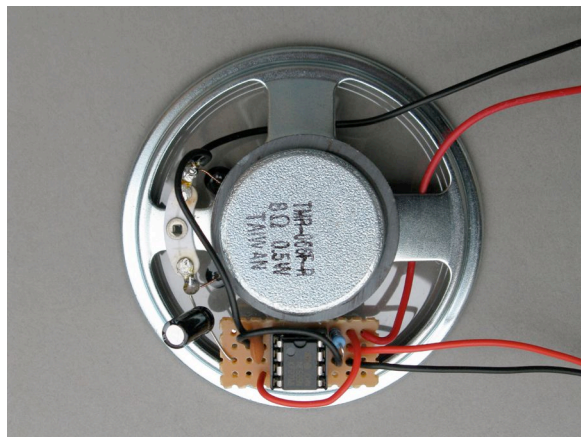
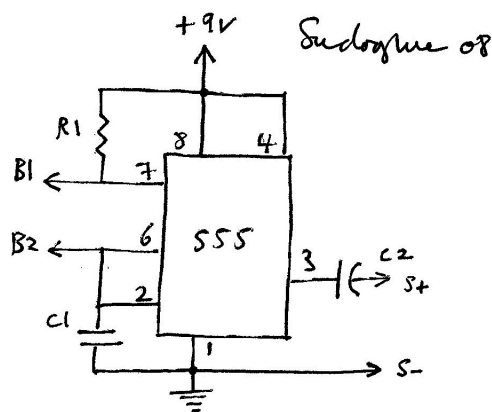

Fig. 1. Sudo-mini. Completed circuit mounted to loudspeaker chassis.
Fig. 5. Sudo-mini schematic (as Sudoglue)
The copper strips run horizontally. The red crosses show breaks in the strips. Capacitor C2 (Fig. 5) is mounted off-board: its leg connecting directly to the positive loudspeaker terminal (see Fig. 1).
The solder tag is optional and may be replaced by a M6 washer. In this case, wire B1 (Fig. 5) may be wrapped around the bolt and secured between the washer and the nut.
board. This takes the strain of the connections (Fig. 1). The negative battery cable (G) can alternatively be connected to the negative speaker terminal instead of directly to the board. This provides more slack for the battery clip (Fig. 1).
To connect wire B2 (Fig. 5) to the tin file or sand a small patch inside the rim of the tin and apply solder to this area (Fig. 6). Once the solder has taken to the rim solder wire B2.